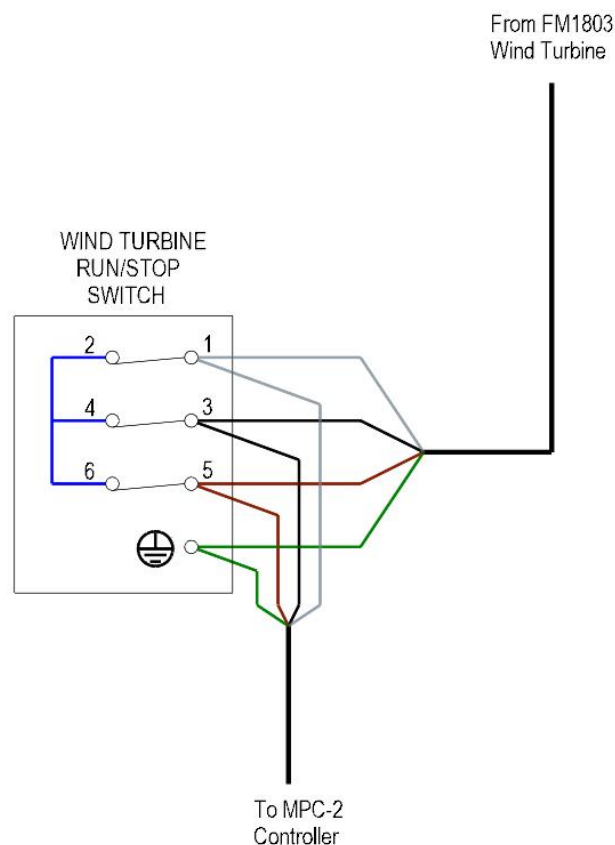

Fig 9. Run/Stop Switch Connections (optional)
2. If selected install the separately supplied Run/Stop Switch following the wiring diagram Fig 9 at a suitable location close to the control unit or convenient for shutting down the turbine in the event the control unit needs to be isolated. Set it at the STOP position.